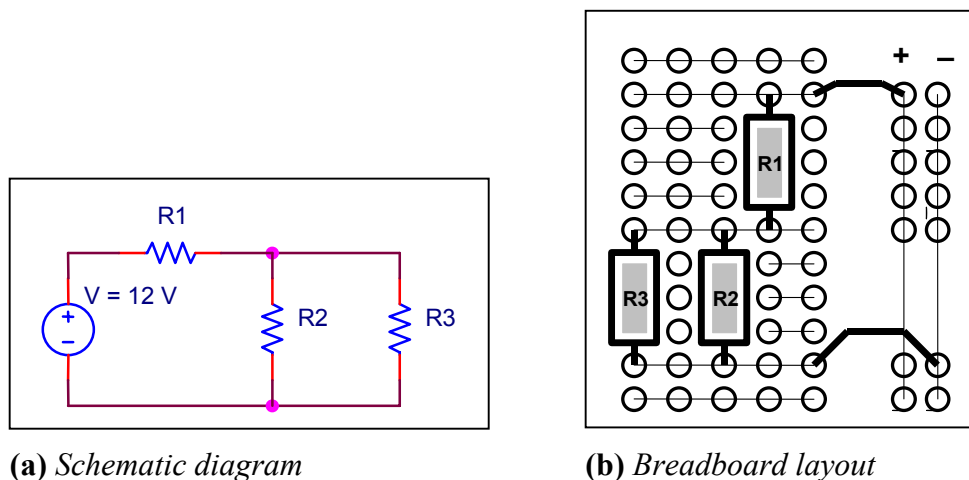

Figure 1.5 Circuit that you will connect in this lab.
Figure 1.5 (a) shows an example of a circuit, consisting of serial and parallel-connected resistors, which will be used during this lab for resistance, voltage and current measurements. The breadboard layout of this circuit is shown in Figure 1.5 (b).
Suppose we wish to measure the value of R_1 in Figure 1.5, we need to observe the following:
2. Study the circuit shown in Figure 1.5(a) and the equivalent breadboard layout for this circuit shown in Figure 1.5(b). Make sure you understand the wiring diagram in Figure 1.5(b).